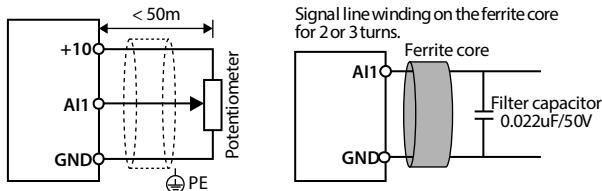
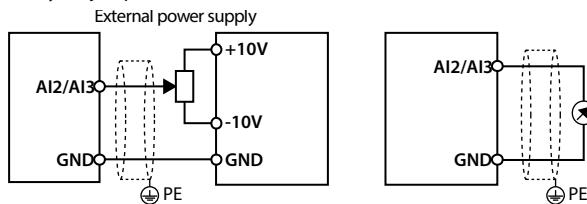

Figure 4-10 AI1 connection
Figure 4-11 AI2 / AI3 connection
The AI1 is voltage input and the range is 0 - 10V, as shown in Figure 4-10.
2. In serious interference occasions, the analogue input signal should add filter capacitor and ferrite core, as shown in Figure 4-10.
AI2 / AI3 are selected as voltage input and the range is -10 - +10V. When selecting internal +10V of HD5L, refer to Figure 4-10; Selecting +/-10V external supply, refer to Figure 4-11.
AI2 / AI3 are selected as current input and the range is 0 - 20mA, refer to Figure 4-11.